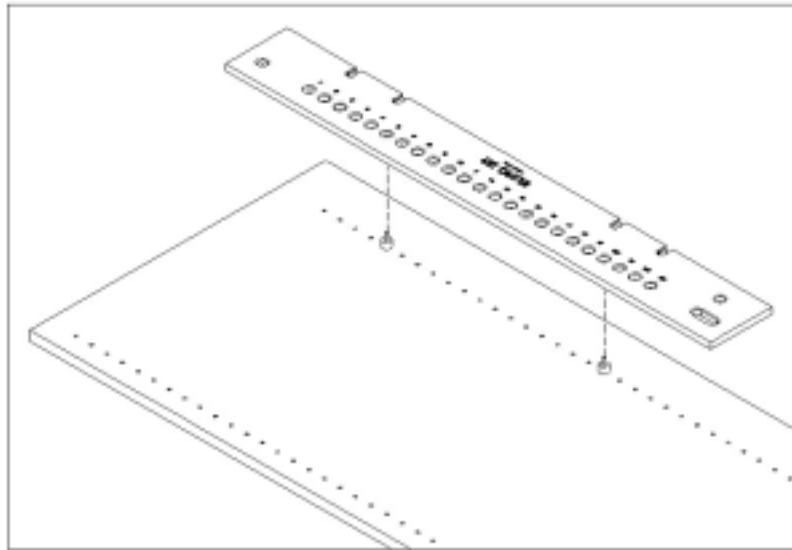

Figure 23
12. If you have a few additional holes to bore, but not enough to use the previous steps, take both stop-pins and place them in two of the rear holes as shown in Figure 23.